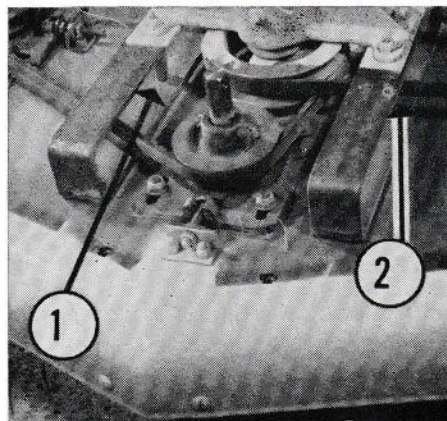

Figure 13
2. Remove the right Drive Mount Support Sleeve, 1 in Figure 13. To do this, elevate the Mower sufficiently to enable you to hold the Sleeve Bolt on the underside of the Deck. Remove the nut from the Sleeve Bolt, tap the Bolt free of the Mower, and remove the Sleeve.
4. Remove the left Drive Mount Support Sleeve, 2 in Figure 13.